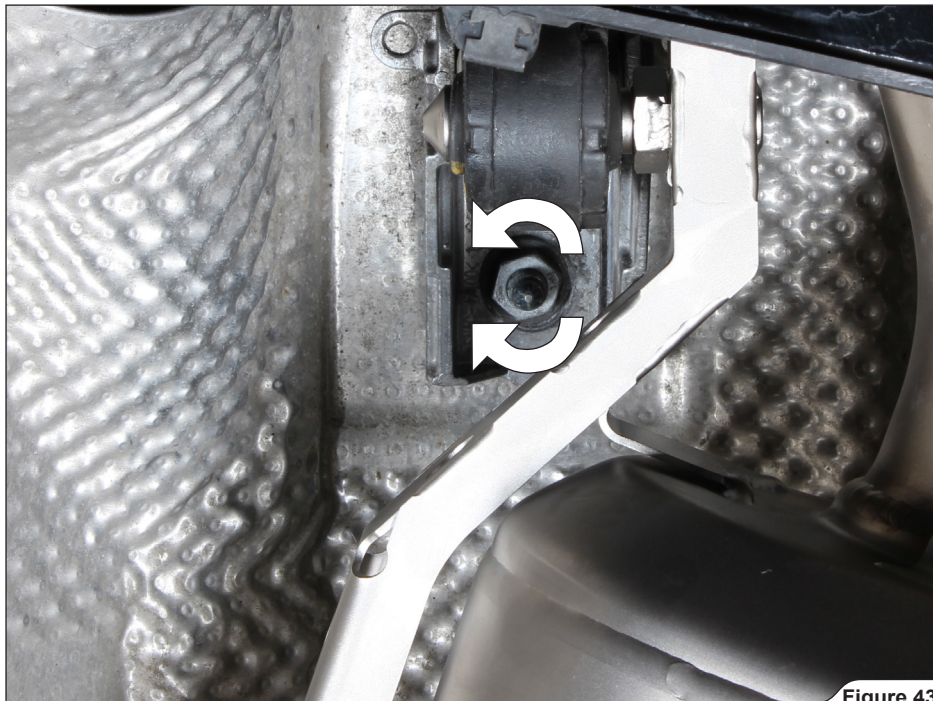

Figure 43
11. Center the mufflers' outlet tubes in respect to the rear bumper (by slightly rotating the brackets) and tighten the rubber brackets to the chassis (**Figure 43, 44**).